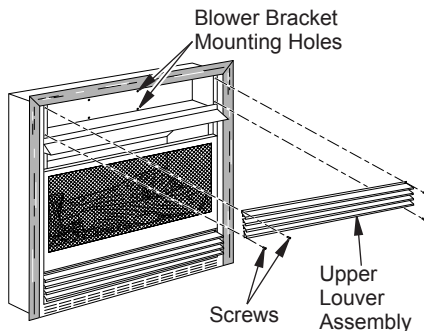
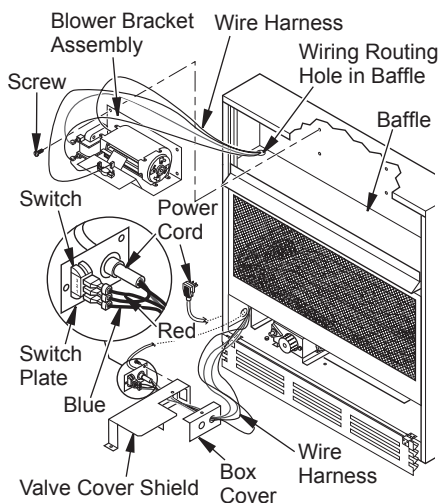
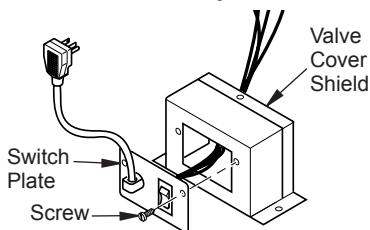

Figure 14 - Removing Upper Louver Assembly
Figure 16 - Installing Blower Bracket Assembly
Figure 17 - Installing Switch Plate to Valve Cover Shield
Built-in installation of this fireplace involves installing fireplace into a framed-in enclosure. This makes the front of fireplace flush with wall. An optional brass trim kit accessory is available (see Accessories, page 30). Brass trim will extend past sides of fireplace approximately 1/2". This will cover the rough edges of the wall opening. If installing a built-in mantel above the fireplace, you must follow the clearances shown in Figure 14, page 12. Follow the instructions below to install the fireplace in this manner. *Note: Your fireplace is designed to be used in zero clearance installations. Wall or framing material can be placed directly against any exterior surface on the rear, sides or top of your fireplace.*
2. Remove 4 screws from louver assembly (see Figure 14). Save these screws.
3. Note the wire locations on back of AUTO/OFF/ON switch. The terminals on back of switch are numbered 1, 2 and 3. Carefully remove red wire from terminal 1 and blue wire from terminal 3. Black wire can remain on middle terminal 2 (see Figure 16).
5. In top of the heater cabinet, locate the 4 mounting holes on the outer casing. Align these 4 holes with those on the blower bracket assembly. Attach blower bracket assembly to the outer casing with 4 #10 screws provided (see Figure 16).
6. Route the wire harness through the hole in left side of baffle. Pull wire harness through lower opening above where valve shield was removed. (see Figure 16).
7. Insert the 4 wire harness into one of the round holes in rear of valve cover shield and through the rectangular hole in the front of shield (see Figure 16).
9. Install switch plate on valve cover shield with 2 #10 screws provided (see Figure 17). Reinstall valve cover shield. Route power cord out of cabinet by inserting it through the bushing on the outer casing (see Figure 16). Plug fan kit into 120-Volt grounded power supply and test operation. *Note: When switch is in the AUTO position, the fan will start after the heater has run for a few moments. The fan will continue to run for several moments after the heater has been turned off. When switch is in the ON position, the fan will run until turned to OFF. Reinstall upper louver assembly and hood if previously removed, (see Figure 14, page 13). Close lower louver door.*
8. Reinstall upper louver assembly and hood if previously removed, (see Figure 14, page 13). Close lower louver door.